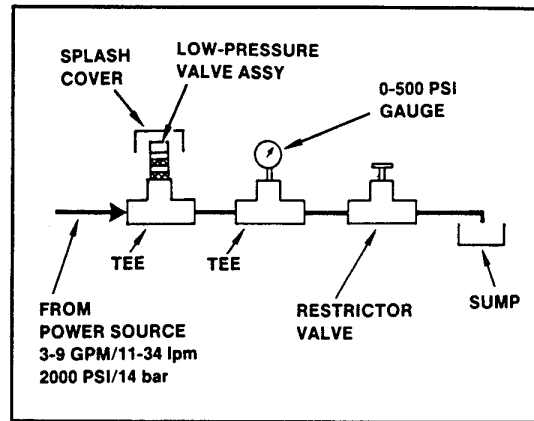

Figure 1. Low-Pressure Valve Test Setup
2. Connect the valve assembly to a test setup as shown in Figure 1.